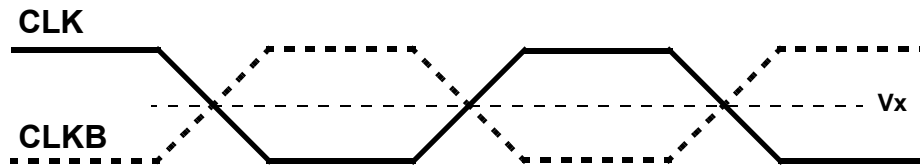

Figure 1. Direct Rambus Crossing Point Voltage
- Differential output crossing point voltages shown in Figure 1.